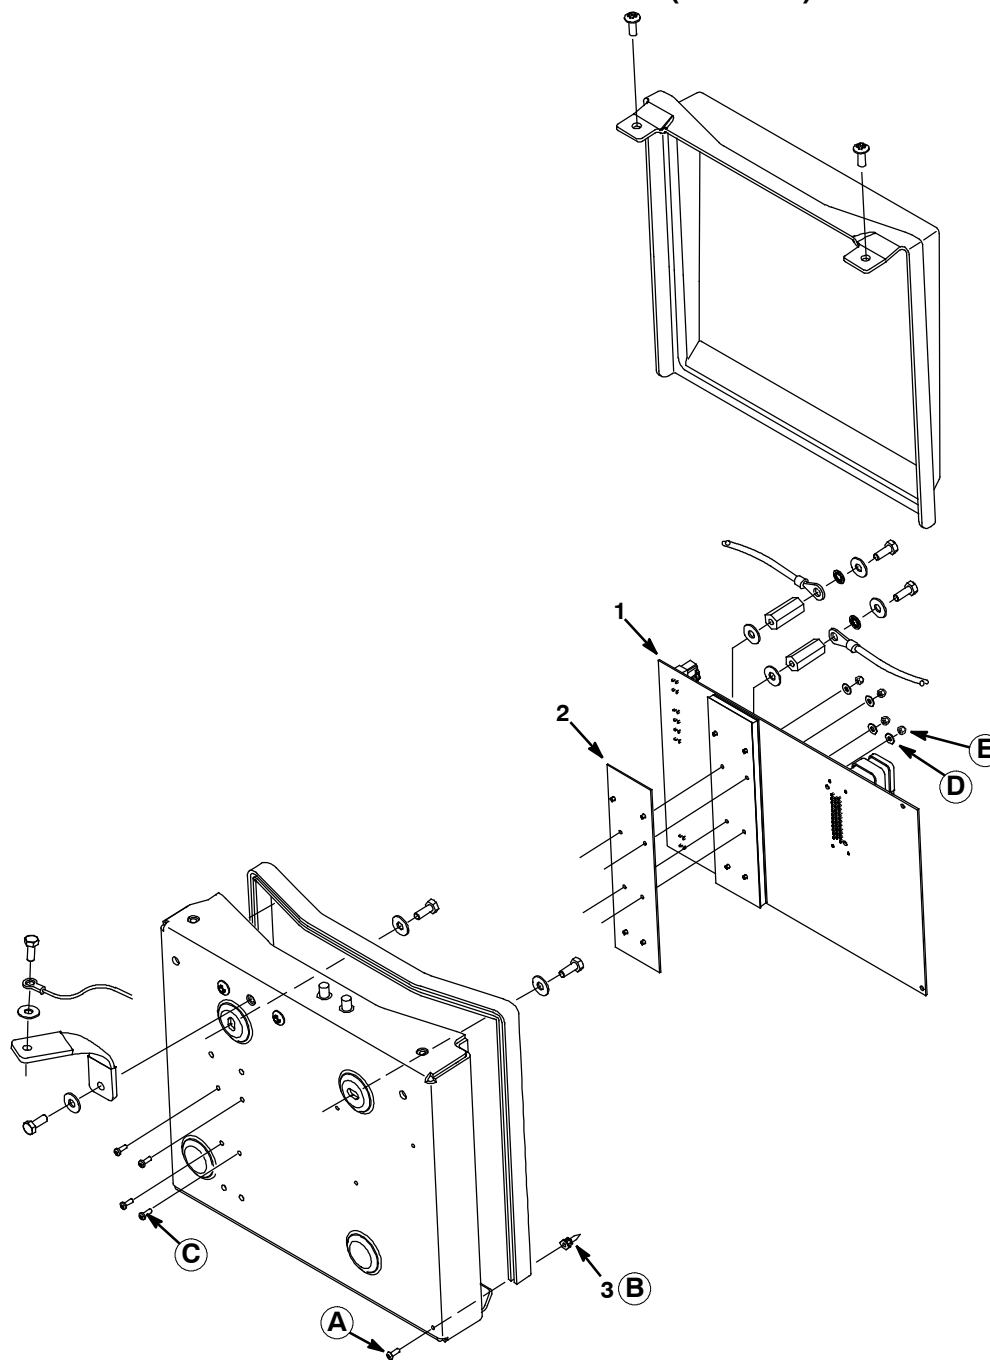

Fig. 11
8. Apply the thermal heat sink pad to back of the new circuit board as shown on Figure 11. Align the holes in the pad with the holes in the heat sink.
9. Mount new circuit board to circuit board box using (4) remaining screws, washers and nuts (ref. C,D,E).